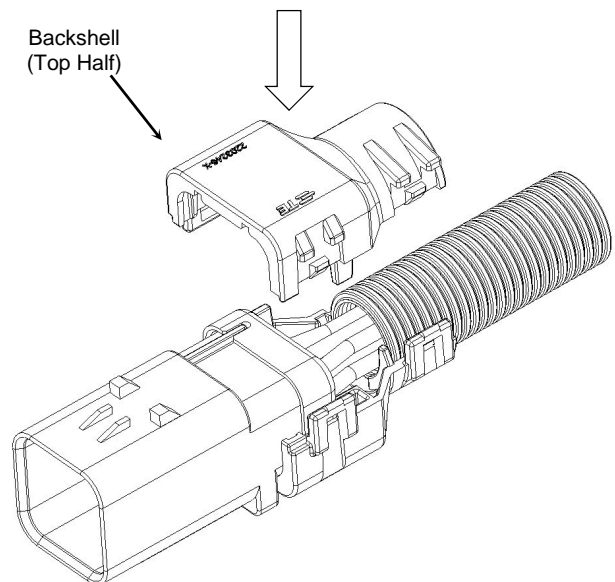

Figure 12
6. For assembly to a receptacle connector, turn the top half of the backshell over. Again, insert the connector into the backshell so that the wire seal cover is behind the second rib at the opening of the backshell and the conduit retention rib is in a well of the conduit. Firmly press the two halves together. An audible and tactile click will indicate when they are mated. Visually check all the latches for complete engagement. See Figure 12.